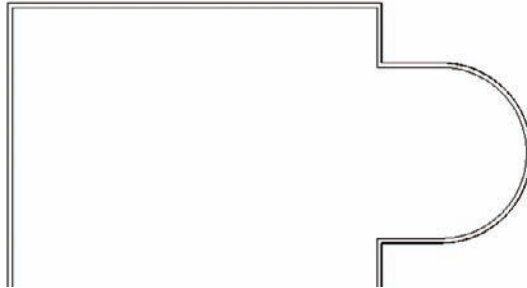

FIGURE 1.32 The completed exterior walls should look like this illustration.
12. When you see the tangent snap icon, choose the third point. Your walls should look like Figure 1.32.